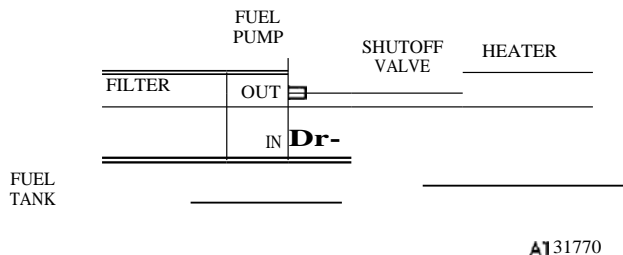

Figure 1-13. M792 Ambulance heater fuel system diagram.
x. *M792 Ambulance Heater Fuel System Diagram.* Figure 1-13 shows the M792 Ambulance heater fuel system diagram.